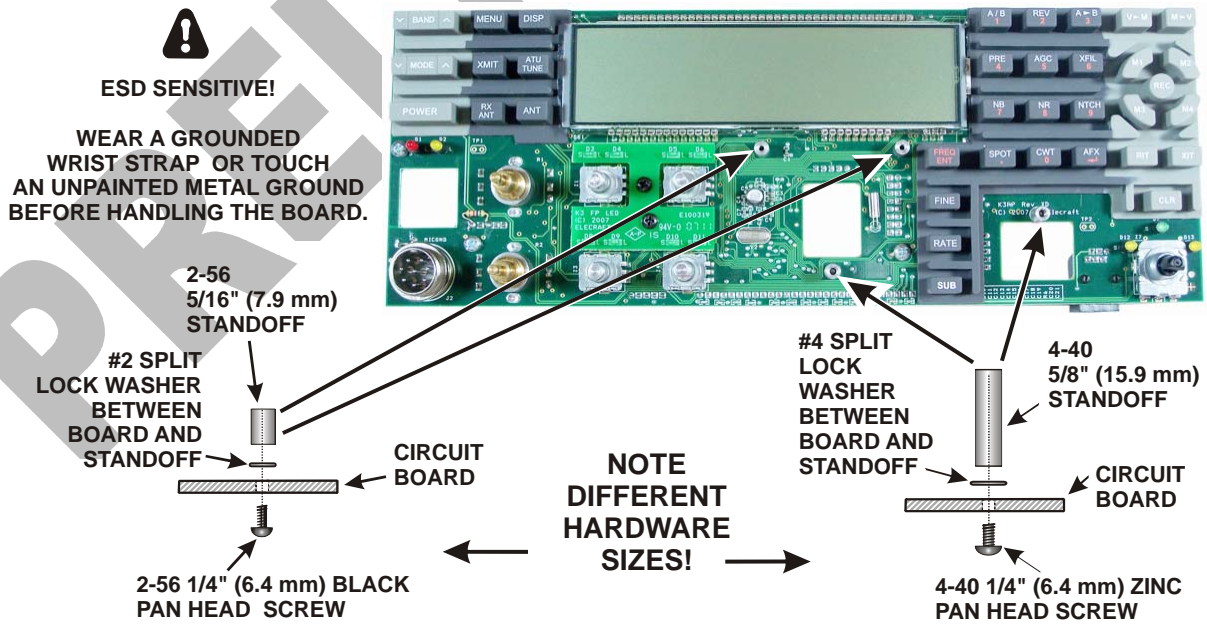

Figure 36. Preparing the Front Panel Board for Mounting, Part 2.
On the front side of the board, mount four standoffs as shown in Figure 36. Note that the two standoffs near the LCD panel use smaller #2 hardware as shown.
- Two 4-40 5/8" (15.9 mm) standoffs are mounted on the front as shown in Figure 36.
- Two 2-56 5/16" (7.9 mm) standoffs are mounted on the front as shown in Figure 36.